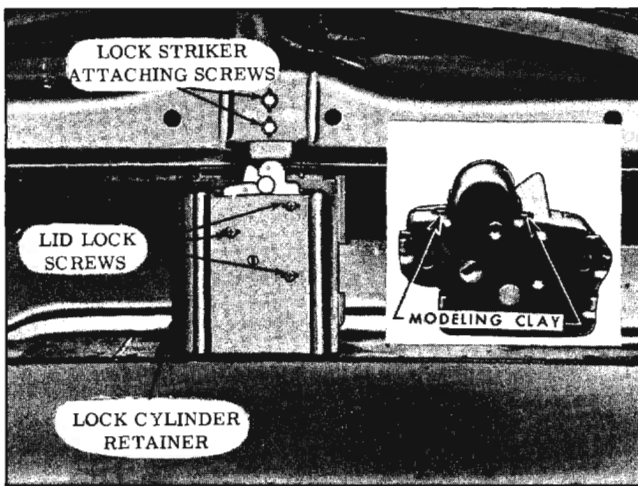

Fig. 16-97 Lid Lock and Striker
2. Remove lid lock attaching screws and remove lock assembly from body. (Fig. 16-97)
2. Remove striker attaching screws and remove striker. (Fig. 16-97)
- a. Insert a small quantity of modeling clay on frame of lock at both sides of the lock bolt. (Figure 16-97) Close lid with moderate force.